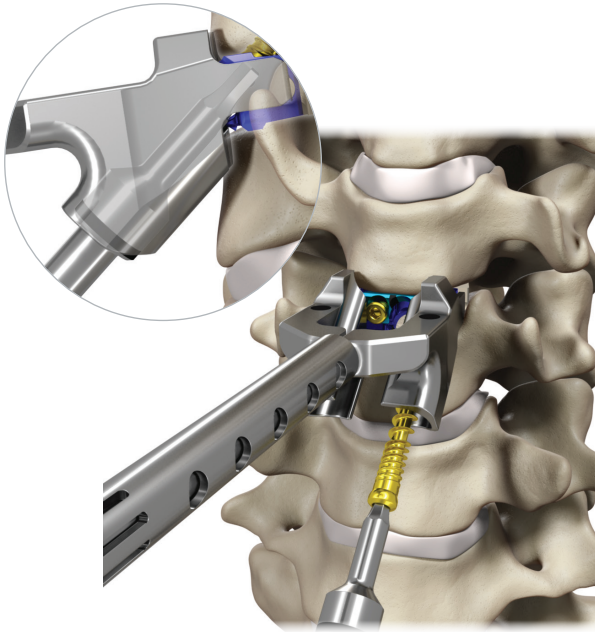

Figure 70
- Assemble the 2.0 mm hex driver and modular spin cap handle. Load the desired screw onto the driver and insert the screw through the first lateral screw hole until the screw head contacts the plate to provisionally stabilize the plate. Ensure that the driver is on axis to the prepared screw trajectory during screw insertion and final tightening (Figure 70).
- The driver laser marking approaches the edge of the guide tube to indicate that the screw is nearly seated (Figure 70, inset).